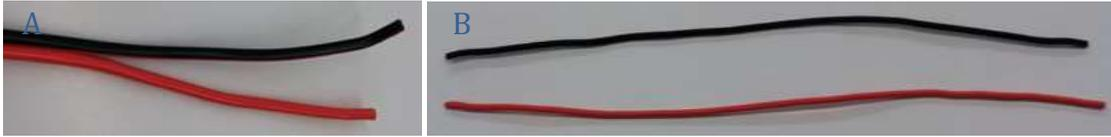

Figure 3. A) Peeling apart red and black coated wires; B) separated red and black wires.
- b. Peel apart to separate red- and black-coated wires (Figure 3).